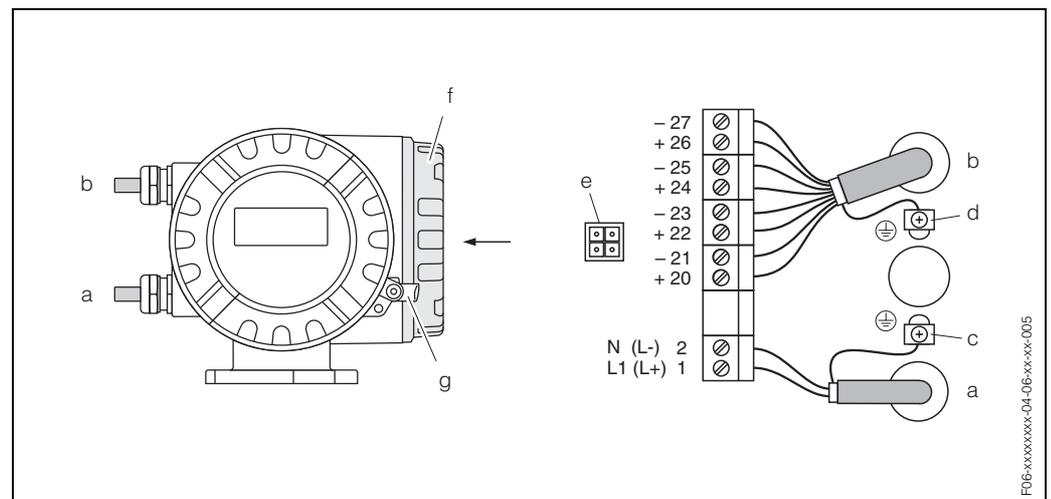

Fig. 28: Connecting the transmitter (aluminium field housing). Cable cross-section: max. 2.5 mm2
- Wiring diagram (aluminium housing) → Fig. 28